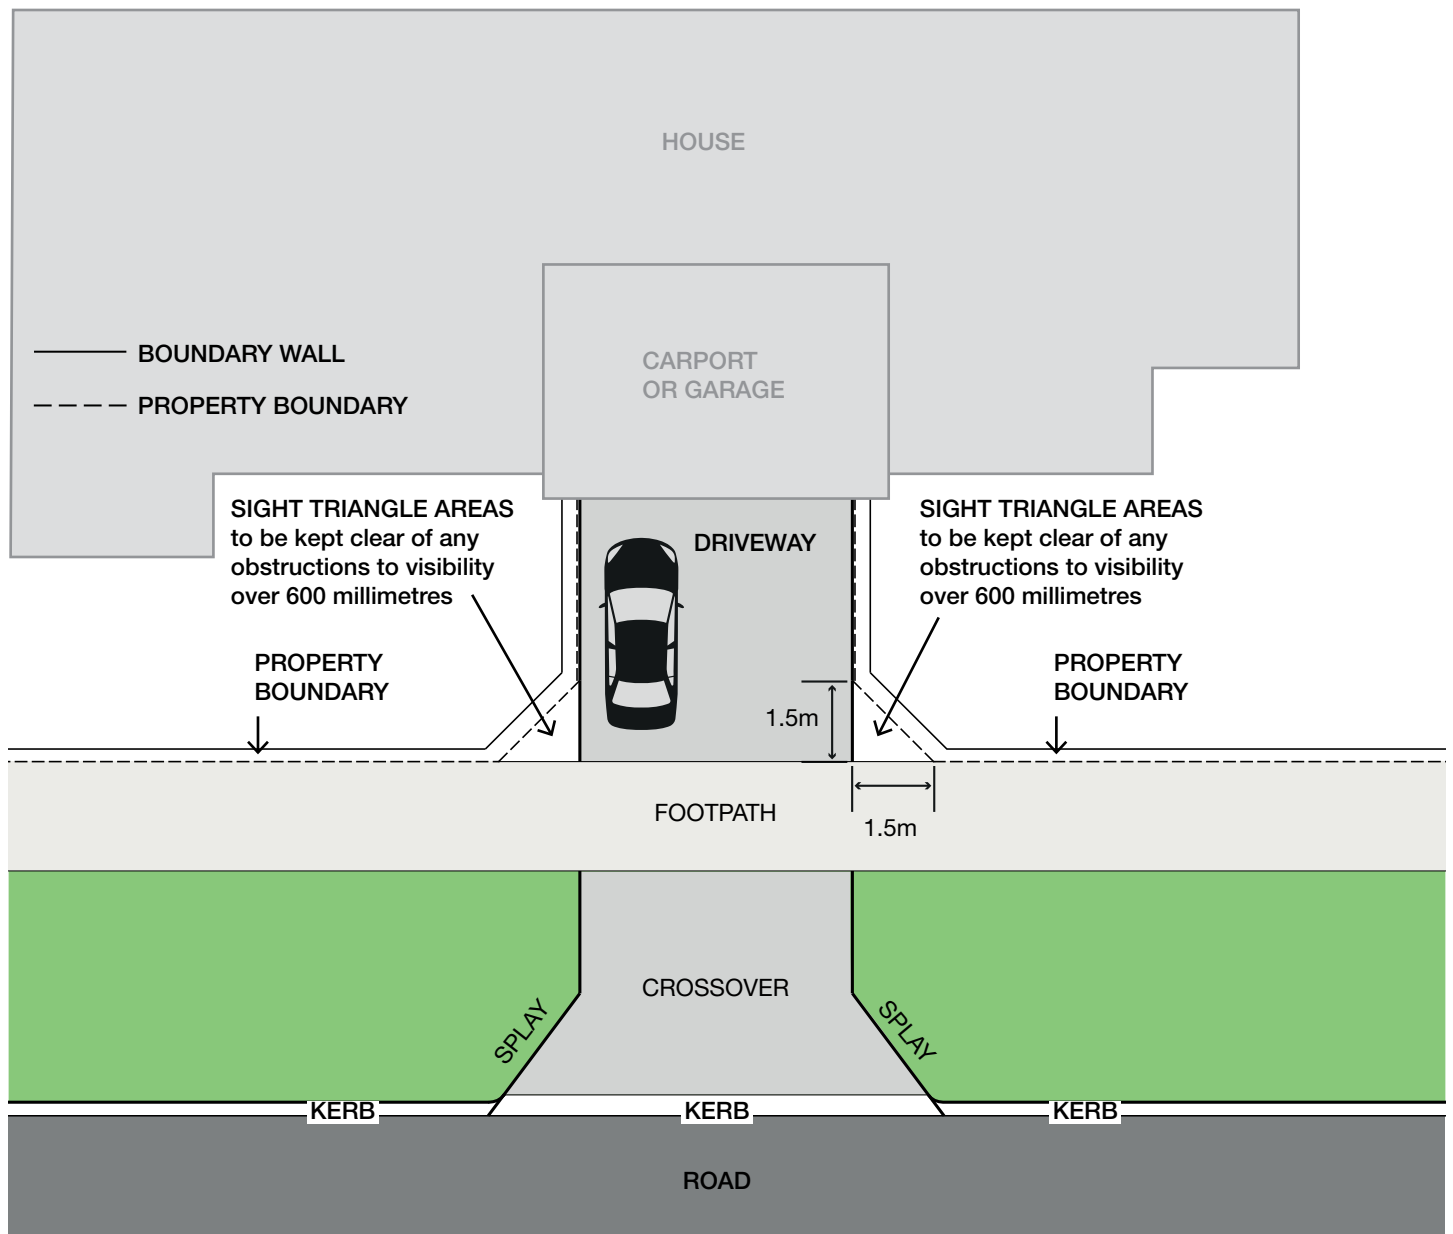

FIGURE 2: A sight triangle located at the intersection of the crossover and footpath.
- vi. Have a sight triangle of 1.5m by 1.5m at the property boundary (as shown in Figure 2) where all fixtures are truncated or reduced to no higher than 600mm. Also applies if no existing footpath.